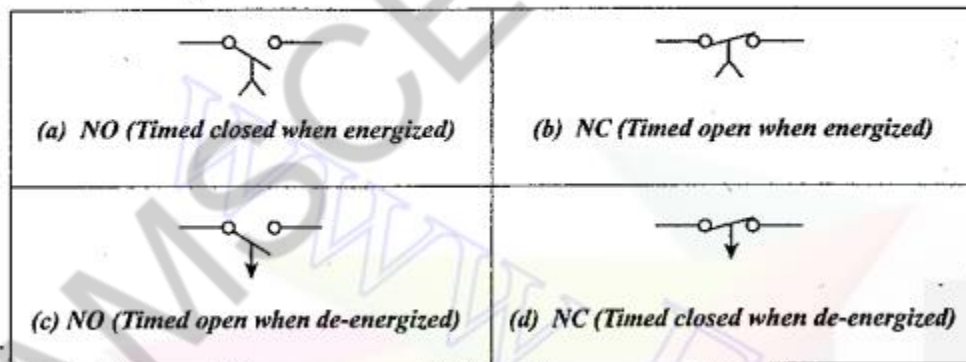

Fig. 9.8. Electrical timer symbols
- ✓ The symbolic representation of the timers is shown in Fig.9.8.
- ✓ Fig.9.8(a) shows a normally open switch when energized closes after a predetermined time interval. Fig.9.8(b) shows a normally closed timer switch that is time opened when energized. Fig.9.8(c) shows the normally open timer switch that is timed when
de-energized. Fig.9.8(d) shows the normally closed timer switch that is time close when de-energized.